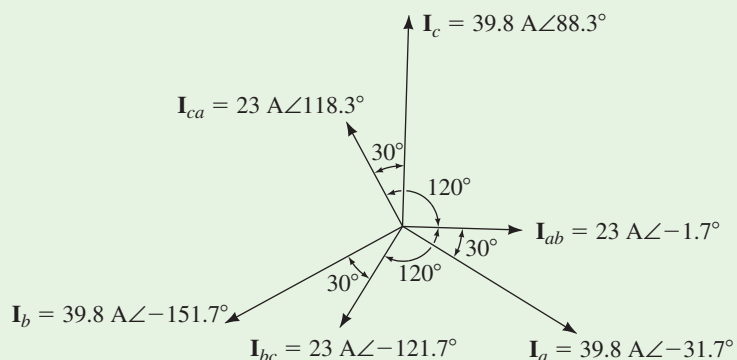

FIGURE 24–15
c. Phasors are shown in Figure 24–15.
- For the circuit of Figure 24–14, if $\mathbf{I}_a = 17.32 \text{ A} \angle 20^\circ$, determine
- For the circuit of Figure 24–14, if $\mathbf{I}_{bc} = 5 \text{ A} \angle -140^\circ$, what is \mathbf{V}_{ab} ?
By now it should be apparent that if you know the solution for one phase of a balanced system, you effectively know the solution for all three phases. We will now formalize this viewpoint by developing the **single-phase equivalent** approach to solving balanced systems. Consider a Y–Y system with line impedance. The system may be either a three-wire system or a four-wire system with neutral conductor impedance. In either case, since the voltage between neutral points is zero, you can join points n and N with a **zero-impedance conductor** without disturbing voltages or currents elsewhere in the circuit. This is illustrated in Figure 24–16(a). Phase a can now be isolated as in (b). Since $V_{nN} \equiv 0$ as before, the equation describing phase a in circuit (b) is the same as that describing phase a in the original circuit; thus, circuit (b) can be used to solve the original problem. If there are Δ loads present, convert them to Y loads using the Δ –Y conversion formula for balanced loads: $\mathbf{Z}_Y = \mathbf{Z}_\Delta/3$, from Chapter 19. This procedure is valid regardless of the configuration or complexity of the circuit, as long as it is balanced. We will look at its use in Section 24.4.